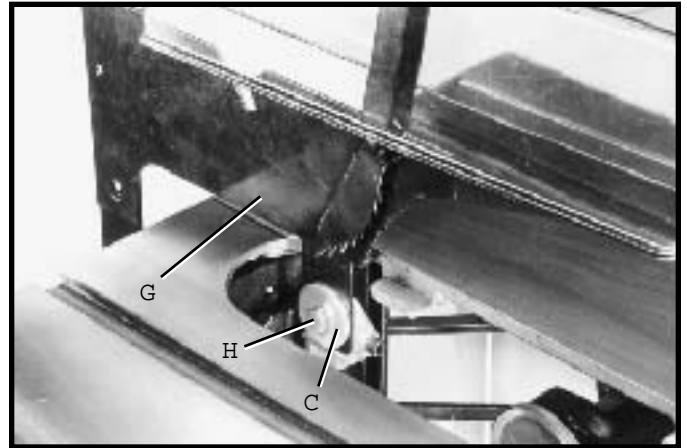

Fig. 29
7. Assemble the blade guard and splitter assembly (G) Fig. 29, between the large washer (C) and the splitter bracket and tighten screw (H) with wrench supplied.